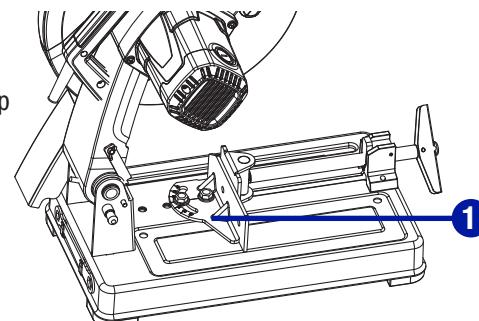

Fig. 9
**USING THE MITRE GAUGE (Fig. 9)**